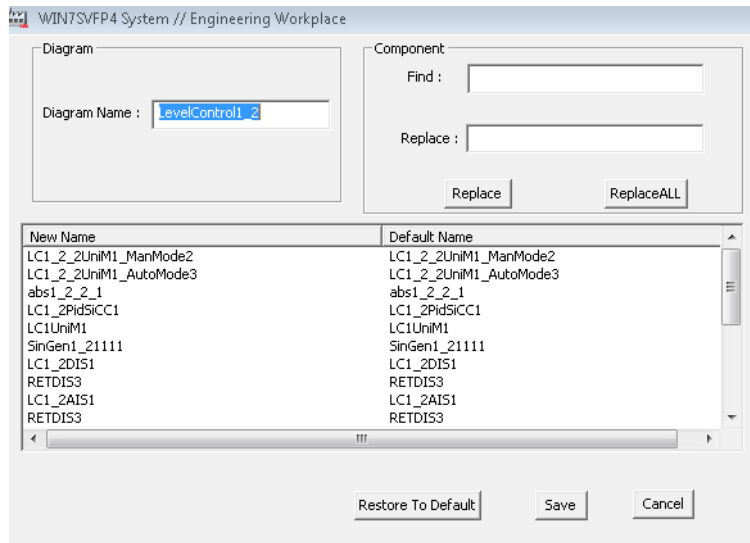

Figure 97. Paste Rename Dialog
3. **Paste Rename** dialog appears with a unique Diagram Name along with the list of all components of Function Diagram, see Figure 97.